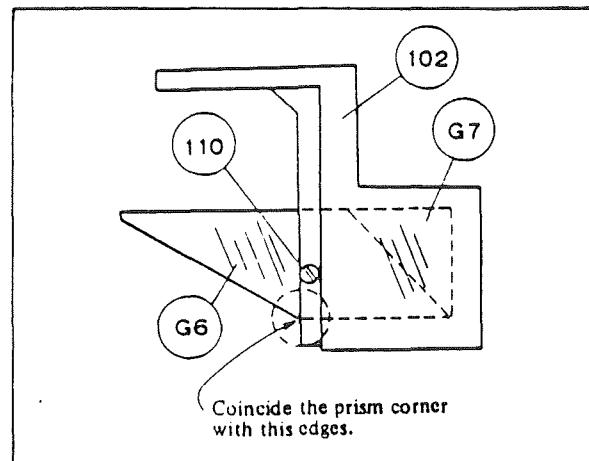

Fig. 20
- 13) Stick light stop plate (116) onto the light incidence surface of prism (G6) in the same way as mentioned in 12).
- 14) Attach prisms (G6), (G7) to (102), and fix them with plastic screw (110) temporarily. (After positional adjustment, stick them using No. 2001.) (Fig. 20)
- 2) For the attaching positions of (G6) and (G7) and righthand prism box (52), refer to Fig. 20.